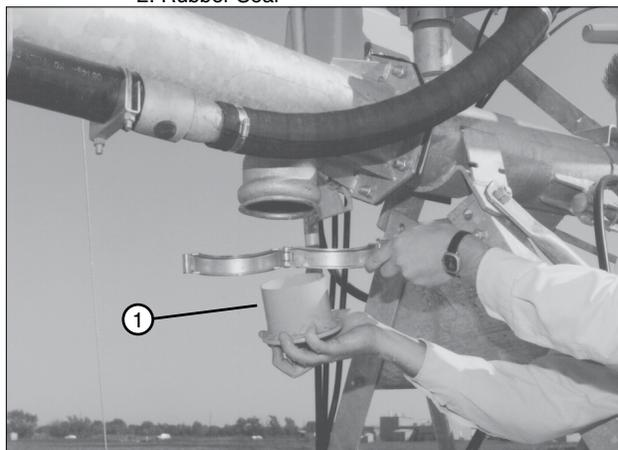

Figure 72-2 1. Sand Trap
3. Remove and clean the sand trap at the last regular drive unit. See figure 72-2.